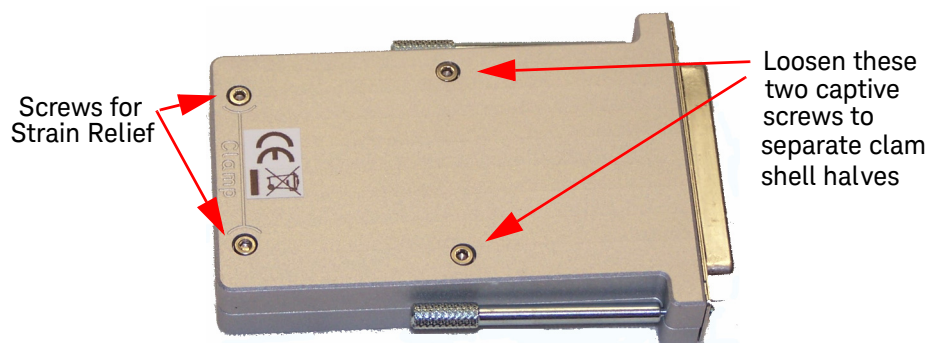

Figure 17 Disassembling the Terminal Block Clam Shell
- 1 Loosen the two screws indicated in Figure 17. These screws are captive to the bottom half of the clam shell. Note: the other two screws are for the strain relief.